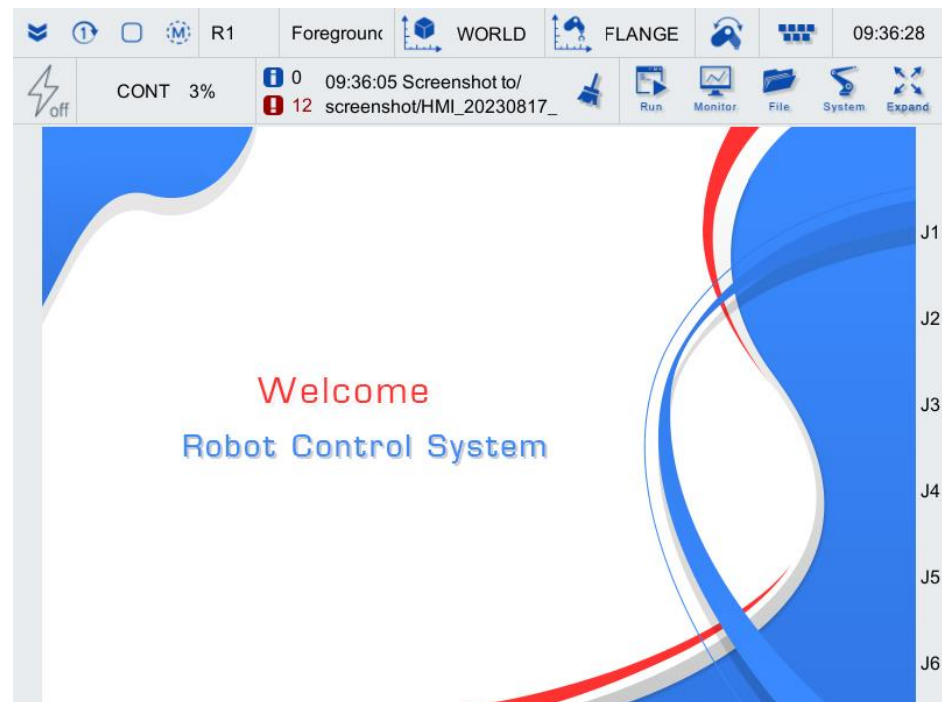

Figure 5-27 Teach pendant main interface
Step1. Log in to the teach pendant and you will see the main interface of the teach pendant as shown in Figure 5-27.